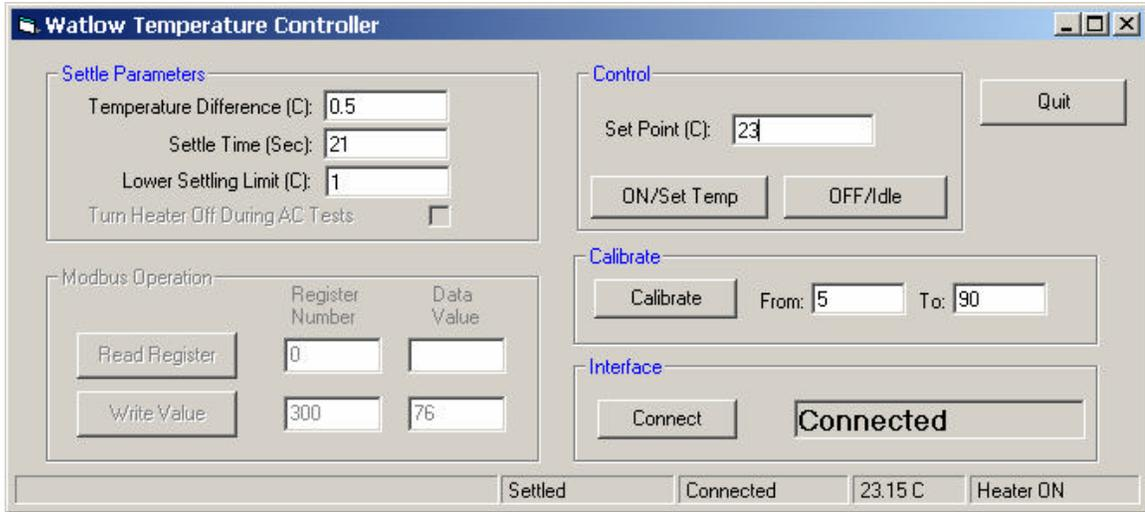

Figure 7 - Main Screen
3. From the menu that opens up next, select Watlow96 from the list of controllers and click OK. (see figure 7)